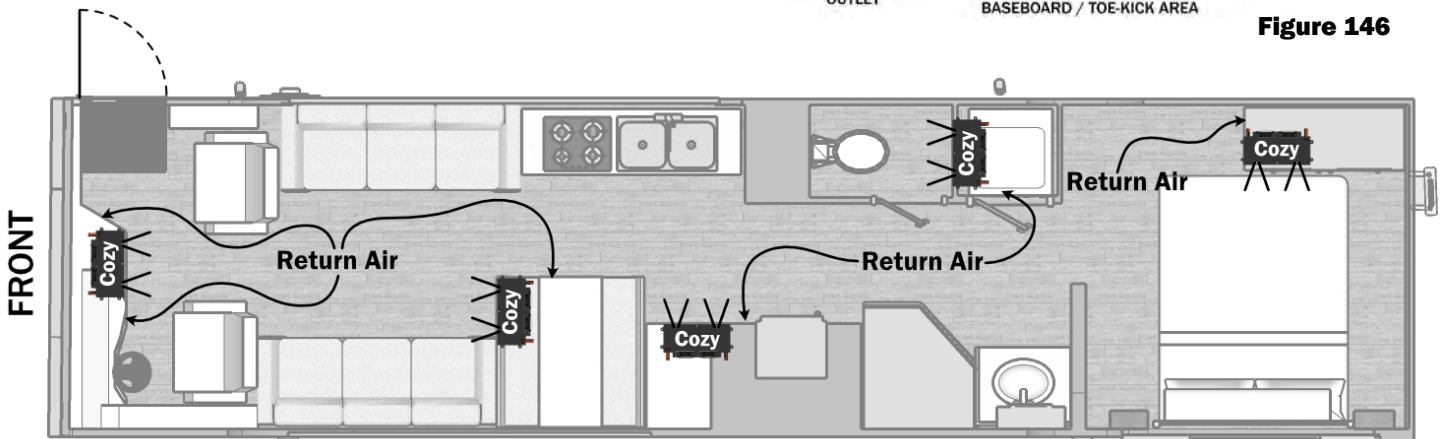

Figure 147
- Must be cold air returns installed for every heat exchanger (reference Figure 147)